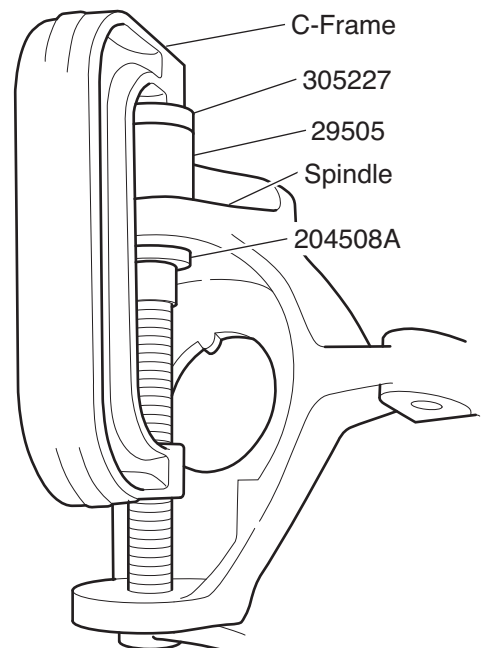

Figure 2. Ball Joint Installation
3. Position 305227 and 29505 on the ball joint as shown in Figure 2.